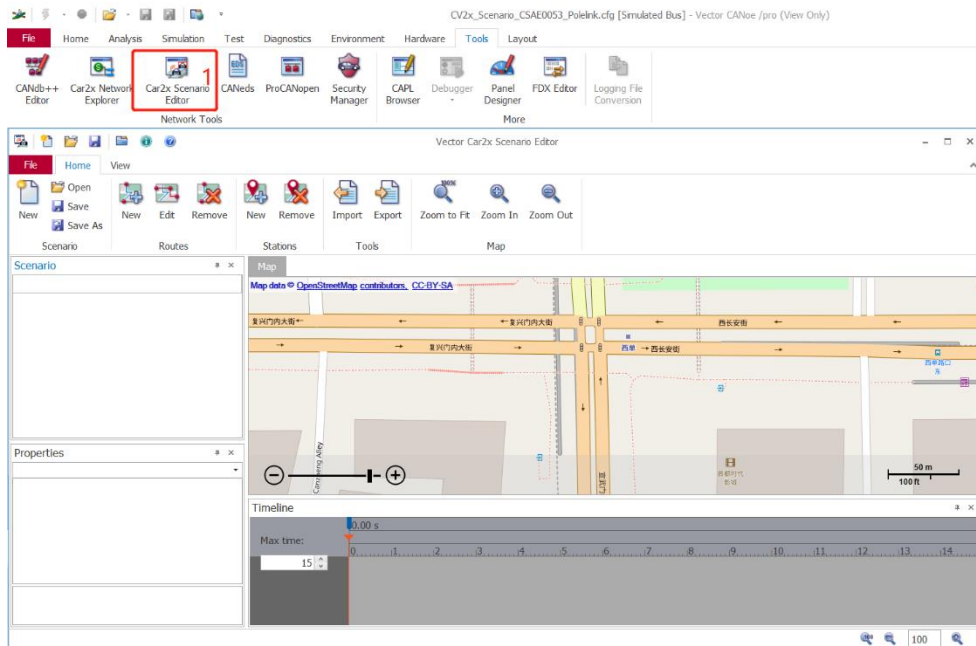

Figure 9: Car2x Scenario Editor
- Use the CANoe software to open the CANoe project, and open the Car2x Scenario Editor tool in the Tools toolbar (Figure 9):